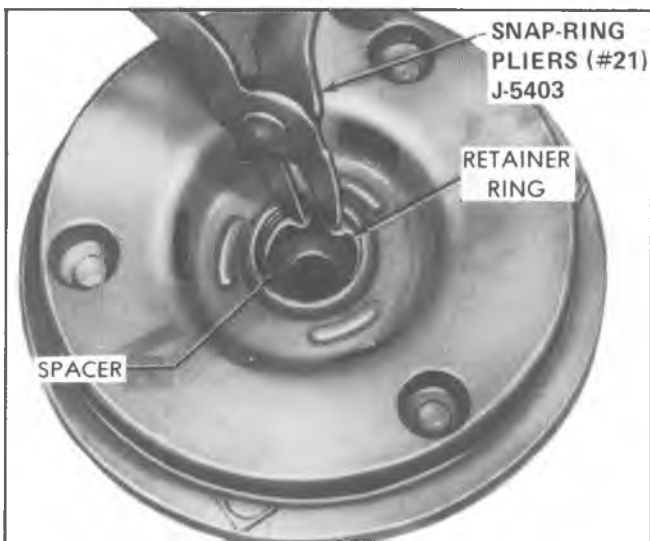

Fig. 5--Removing or Installing Retainer Ring in A-6 Clutch Drive Plate
5. Remove hub spacer retainer ring using Snap-Ring Pliers J-5403(#21), and then remove hub spacer (Fig. 5).